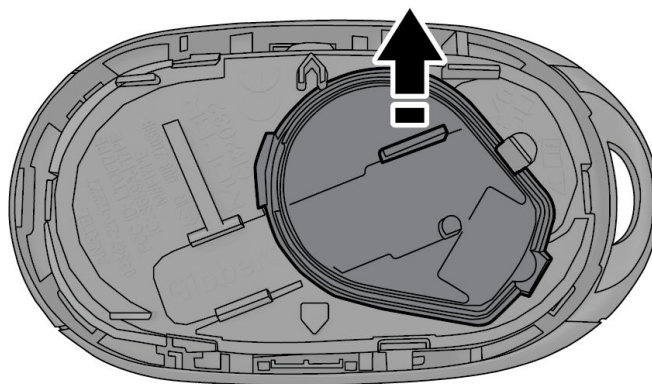

Fig. 3
4. Remove the battery cover by prying the recess upwards Fig. 3.